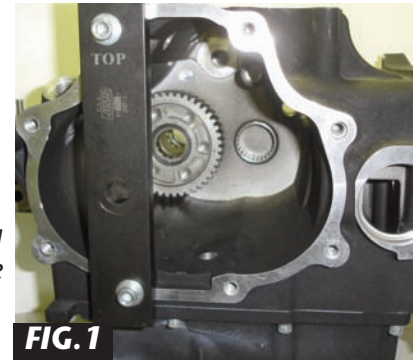

FIG. 1
2. Attach the installation bar tool No. **987-2** to the trap door side of case. Use two allen screws with washers H-D No. **3249** from existing trap door mounting hardware. Locate removal bar No. **987-2** correctly on case using two of the door mounting holes so that the hole is aligned with maindrive gear. The tool bar has been laser marked with "Top" on the tool bar and must face you and be at the top of trans case. **See Fig 1.**